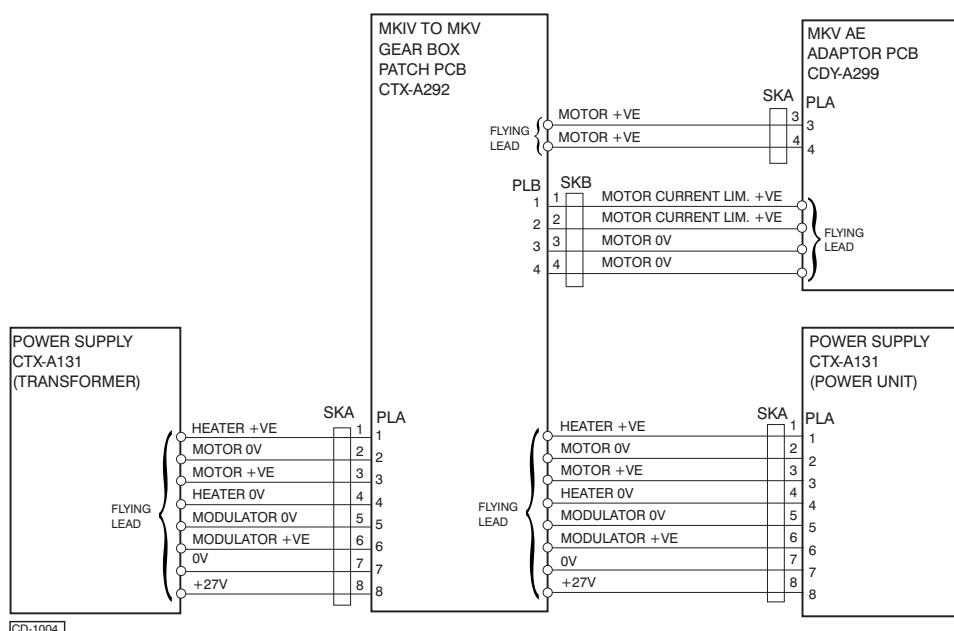

Figure 6a - AC Power Unit (CTX-A131)
- 18 A block diagram of the ac Power Unit is shown in Figure 6a.